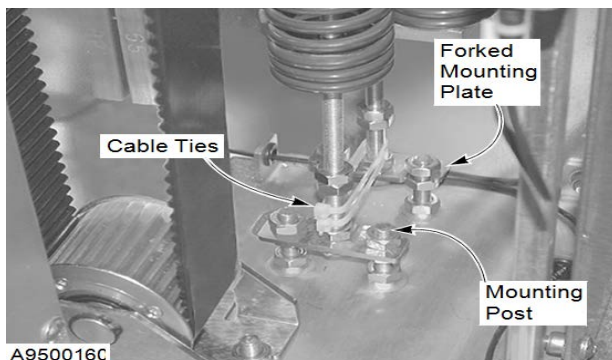

Figure 74
8. Attach the spring pack to the mounting posts on the base plate. To retain the preload setting, tighten only the lower nuts against the bottom of the mounting plate — do not adjust the upper pair of nuts. (See Figure 74.)